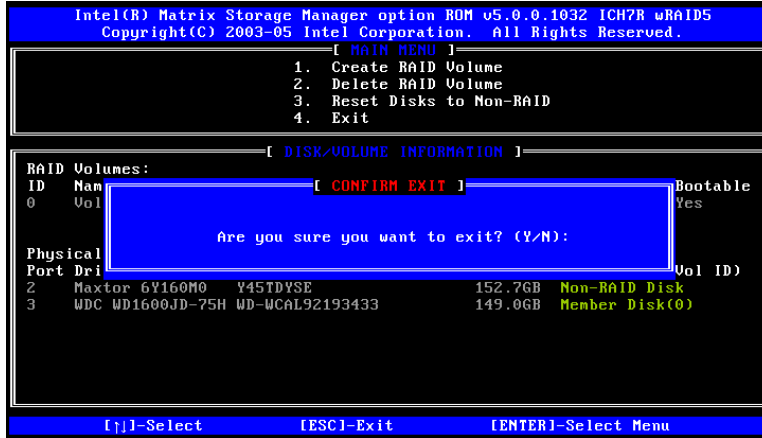

Figure A-2: Exit Verification
Step 2: Exit Verification. Press **Y** to exit the **Matrix Storage Manager**, or **N** to return to the **Main** menu. See **Figure A-2**.